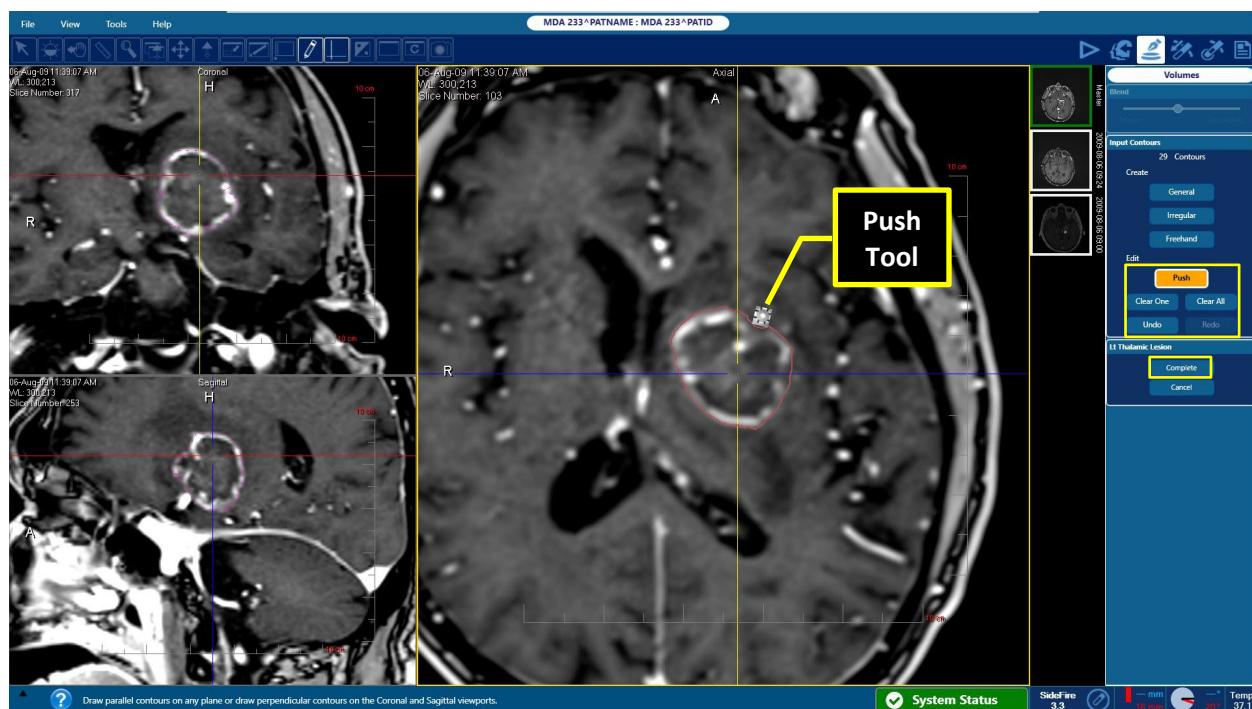

Figure 8.1.32: Edit the Generated Volume Contour
- Use the Push Tool (Figure 8.1.32) to adjust the boundaries of the initially defined contour